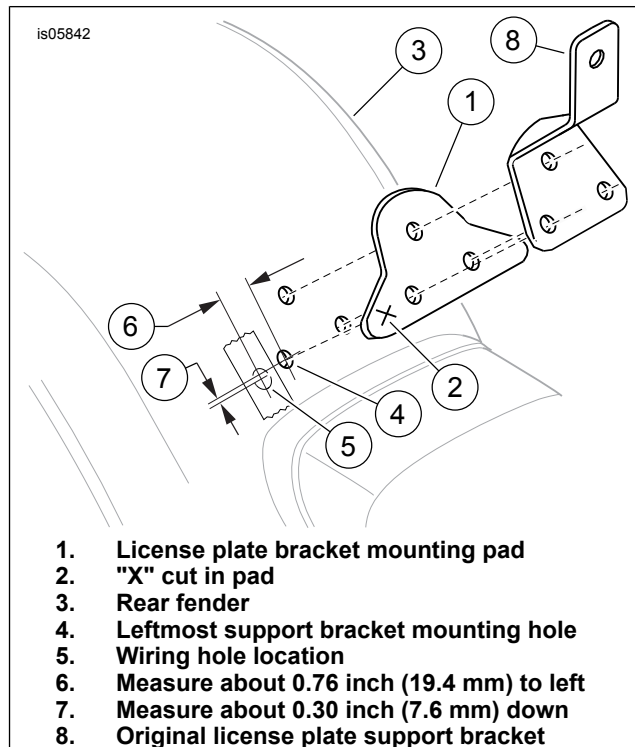
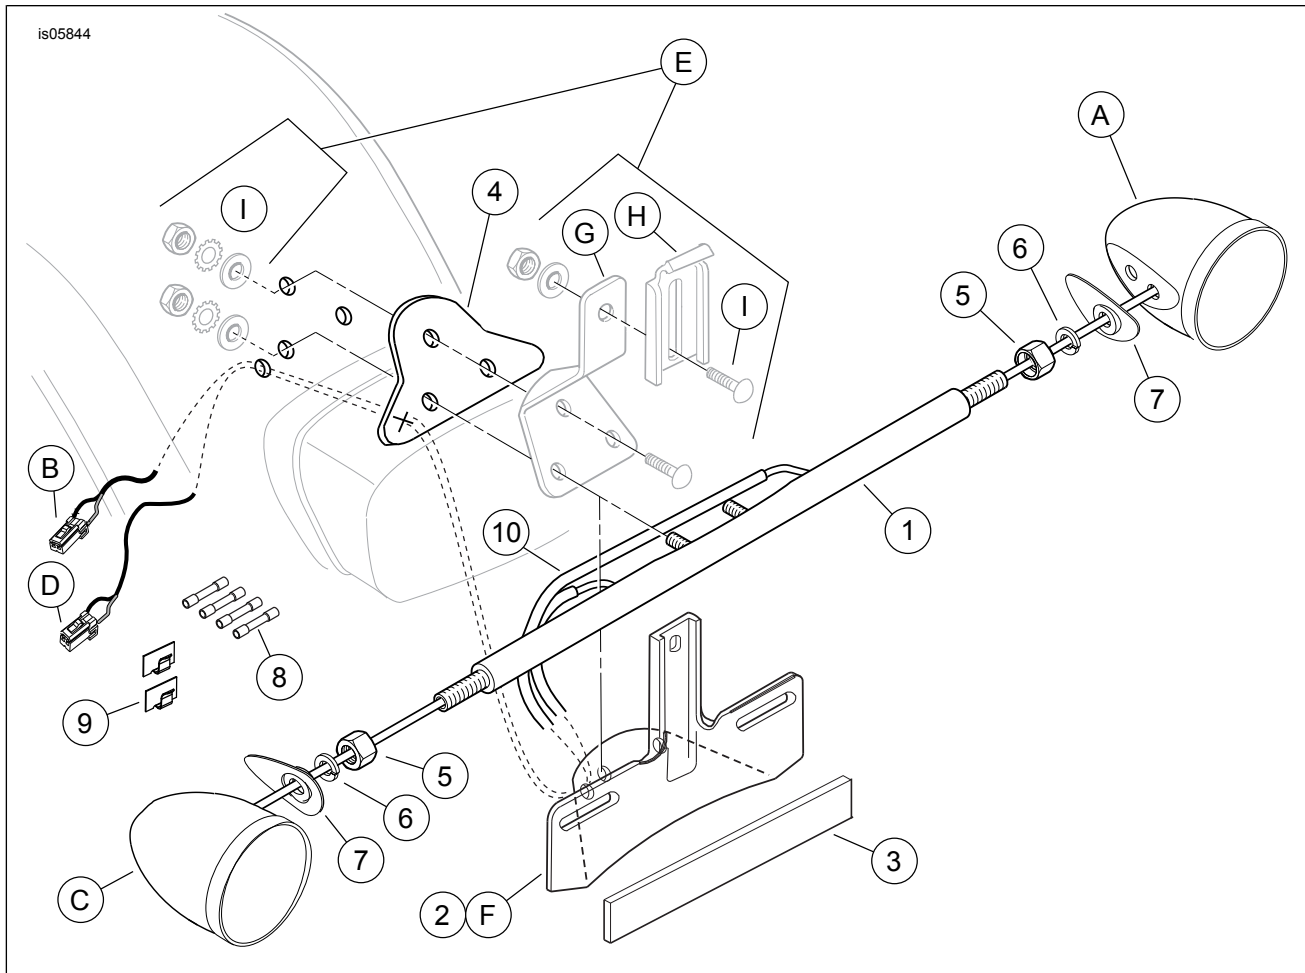

Figure 6. License Plate Support Bracket and Pad
Figure 7. Service Parts, Rear Turn Signal Relocation Kit
2. See Figure 7. Place one of the flat washers from the previous step on a **new** screw (purchased separately). Insert the screw through the attaching hole in the fender and the fender support. Place one of the original lockwashers on the fastener threads, and apply a few drops of Loctite 243 - Blue to the threads. Secure the fender support to the rear fender with a **new** acorn nut (purchased separately). Tighten the fasteners to 16.3–24.4 N·m (12–18 ft-lbs). Repeat for the opposite side.
Remove the license plate bracket assembly from the fender. See Figure 7. Retain the hardware (E) for installation of the new bracket (2) from **this** kit.
1. See Figure 7. Obtain the directional bar (1) and two jam nuts (5) from the kit. Screw a jam nut all the way onto each end of the directional bar with the counterbored side of the nut against the bar.
1. See Figure 6. **For models with THREE license bracket holes in the fender:** For models with FOUR license bracket holes in the fender:
- a. Place a piece of masking tape on the rear fender (3) in the area to the left of the three license plate bracket mounting holes above the tail lamp.
- b. Measure from the left lower hole (4), per dimensions (6) and (7), and mark the location for hole (5) on the tape.
- c. Place the new pad (1) from the kit onto the fender, aligning the holes with the three holes in the fender. Make sure the pad will cover a 10 mm ($\frac{3}{8}$ in) diameter hole in the marked location.
- f. Place the pad (1) onto the fender, aligning the holes with the three holes in the fender.
- h. Place the new pad (1) from the kit onto the fender, aligning the holes with the three holes in the fender.
2. **ALL models:** Remove the pad from the fender, and cut an "X" pattern (2) at the mark as shown.
3. See Figure 7. Obtain the **new** license plate bracket (2) from the kit. Route the wires for both turn signals through the leftmost hole in the license plate bracket, the "X" cut in the pad, and the leftmost hole in the fender.